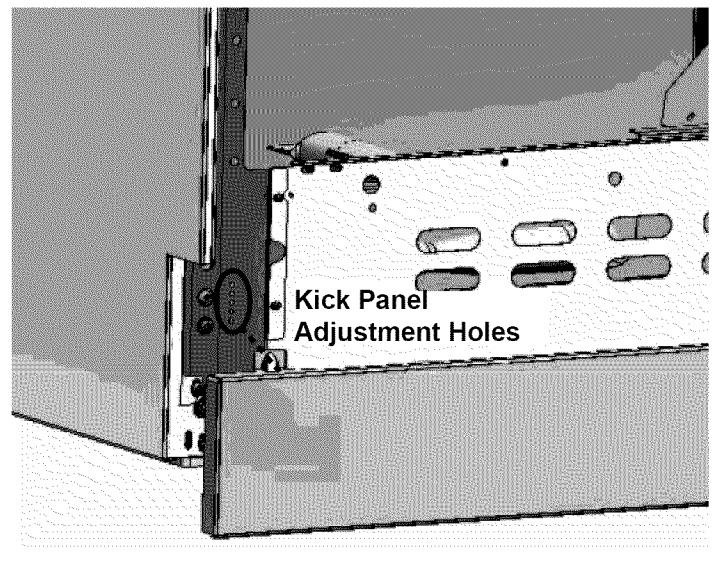

Figure 29: Kick Panel Adjustment
3. Relocate kick panel at one of the five screw hole positions, as noted in *Figure 29*. Reinstall Torx screw.